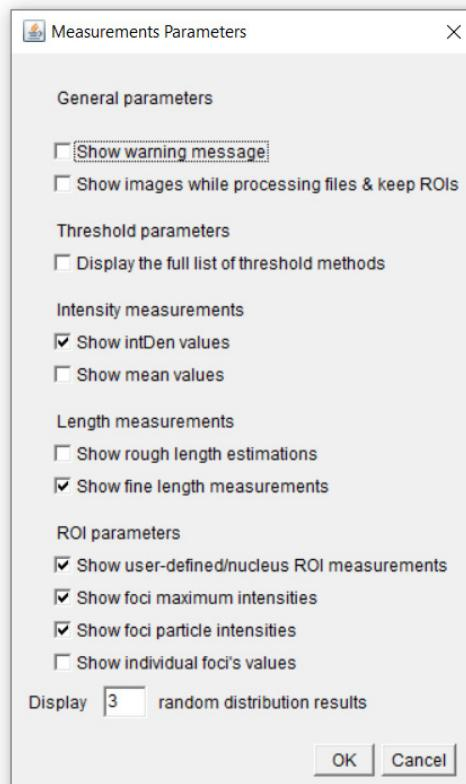

Figure 4.2. The (general) parameters window.
- The default parameters hide the images during the analysis. To have them displayed, use the set Measurements Parameters of the main meiosis bar. In the parameters window (fig. 4.2), select “show images while processing files” option.